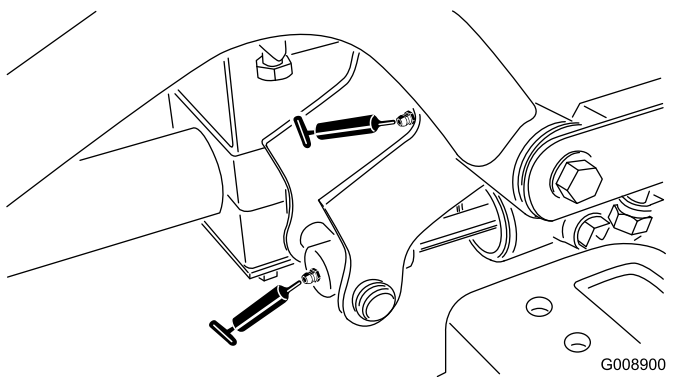

Figure 33
- 2 right, front lift-arm pivots and lift cylinder (Figure 33)